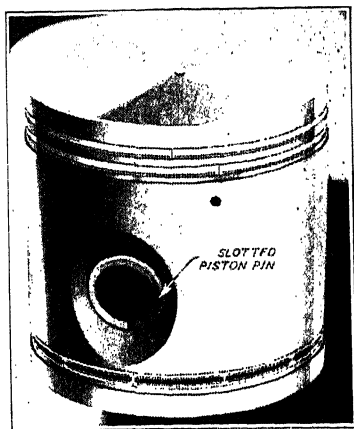

Fig. 4. Pontiac Slotted Piston Pin
**Pontiac Piston Pins.** A new method of fitting piston pins is found in the Pontiac engine. The piston pins are individually selected for proper fit to close limits to the connecting rod bushings. See Fig. 4.
is slotted, as shown in Fig. 4, to allow for the expansion and contraction which takes place as the engine temperature changes. This arrangement insures correct fitting under all conditions, and prevents piston pin noises.